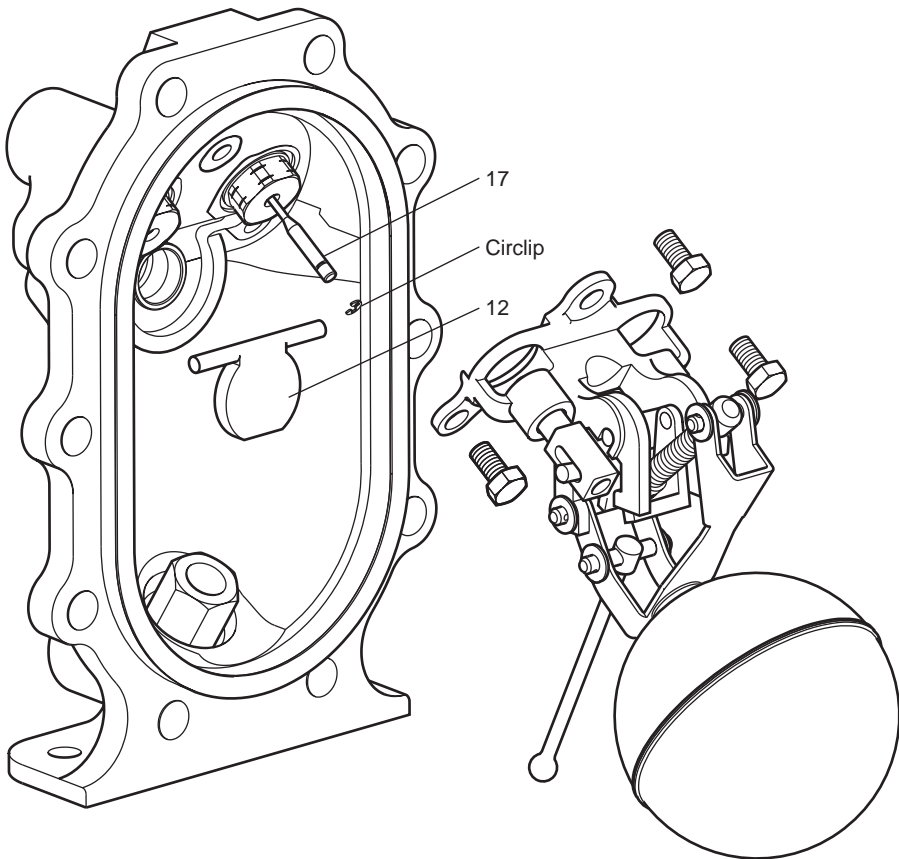

Fig. 3
3. Carefully remove the circlip from the end of the steam inlet valve (item 17).
5. Lift away the pump bracket assembly (See Fig. 3). This will allow access to the inlet swing check valve (item 12).